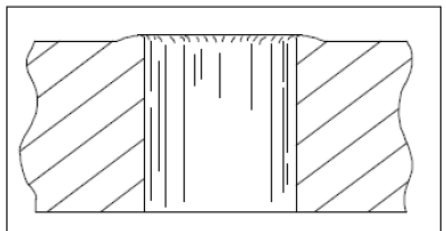

Figure 10 Extended Burr
- h. Extended Burr (see Figure 10):